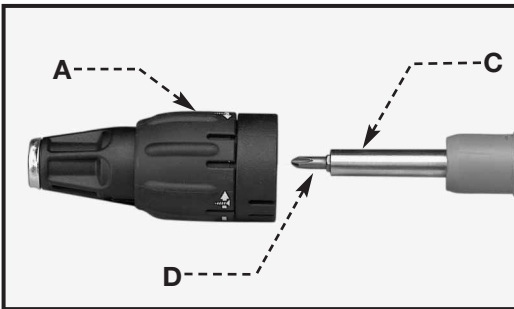

Fig. 3
2. Pull the bit holder (C) Fig. 3 out. If it is difficult to remove, grip it with pliers and pull.
**NOTE:** Bit (D) Fig. 3 may be removed from the bit holder by pulling it straight out.